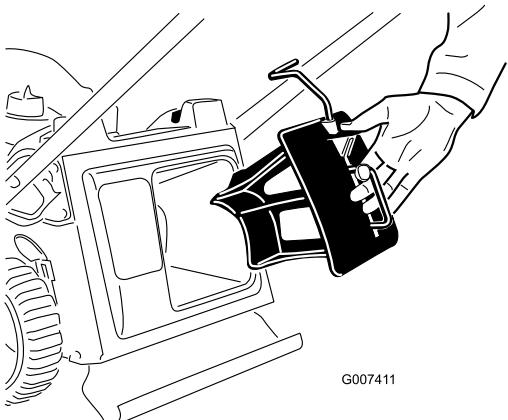

Figure 8
2. Insert the mulch plug into the mower, if it isn't already installed (Figure 8).